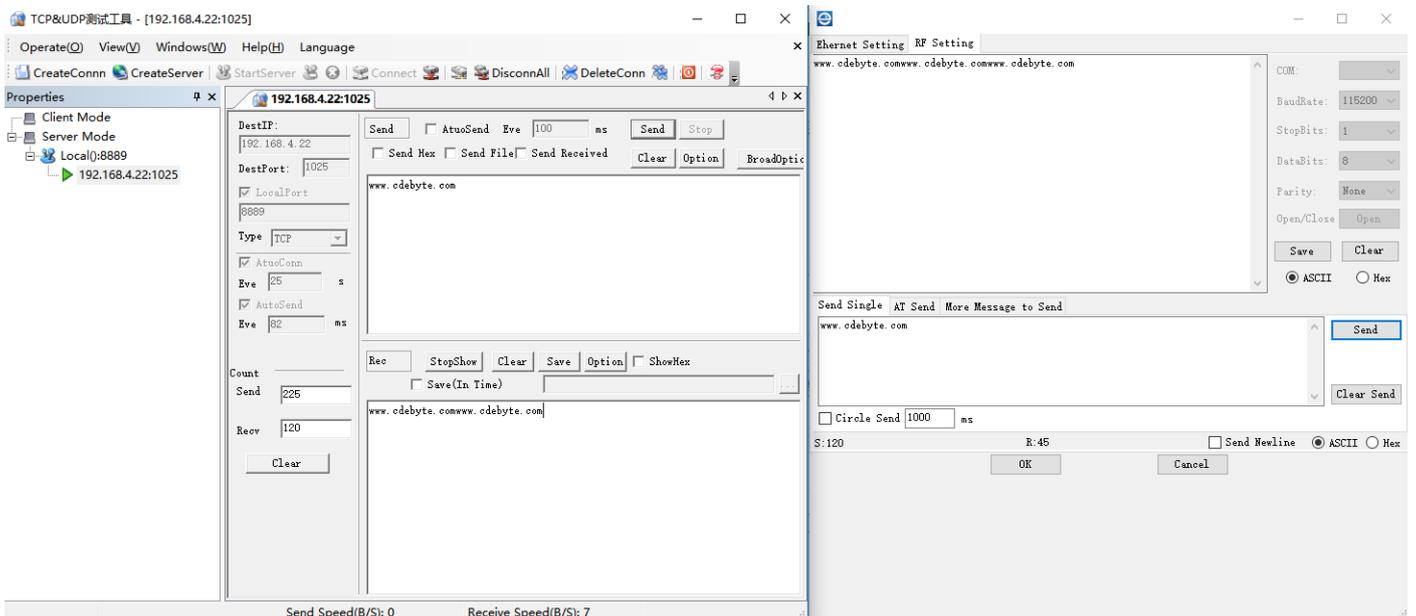

Figure 12 Data transparent transmission
(2)As shown in Figure 12, the working principle is as follows: the network test assistant acts as the server, and the TCP client device acts as the client. The device in the same wireless network as the TCP client device is used as the monitoring device. The server and the client communicate with each other through the Ethernet. The terminal is connected to the monitoring device via wireless.